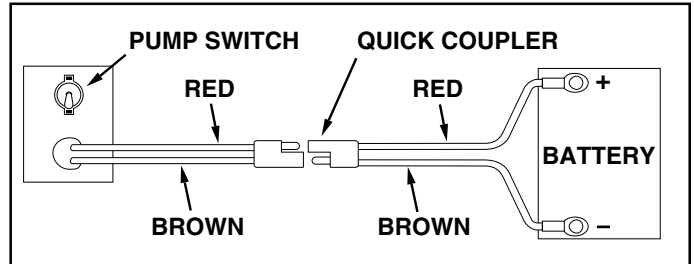

FIGURE 9
17. Attach the sprayer to the tractor hitch and connect the wiring to the tractor battery. The red wire must be connected to the positive post on the battery or to the "HOT" connection on a tractor switch or ammeter. The brown wire may be grounded or connected to the negative battery post. See figures 9 and 10.